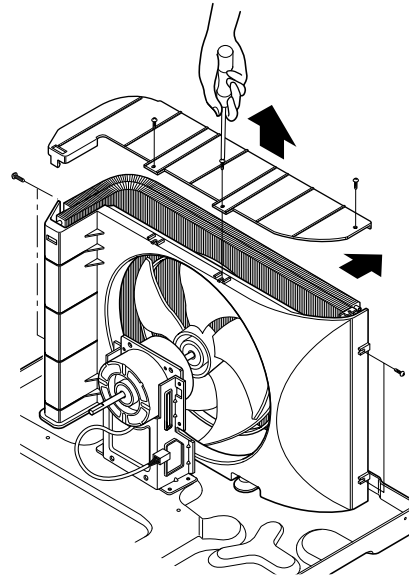

Figure 16
6. Re-install the components by referring to the notes – on pages 13-14. (See Fig. 16)